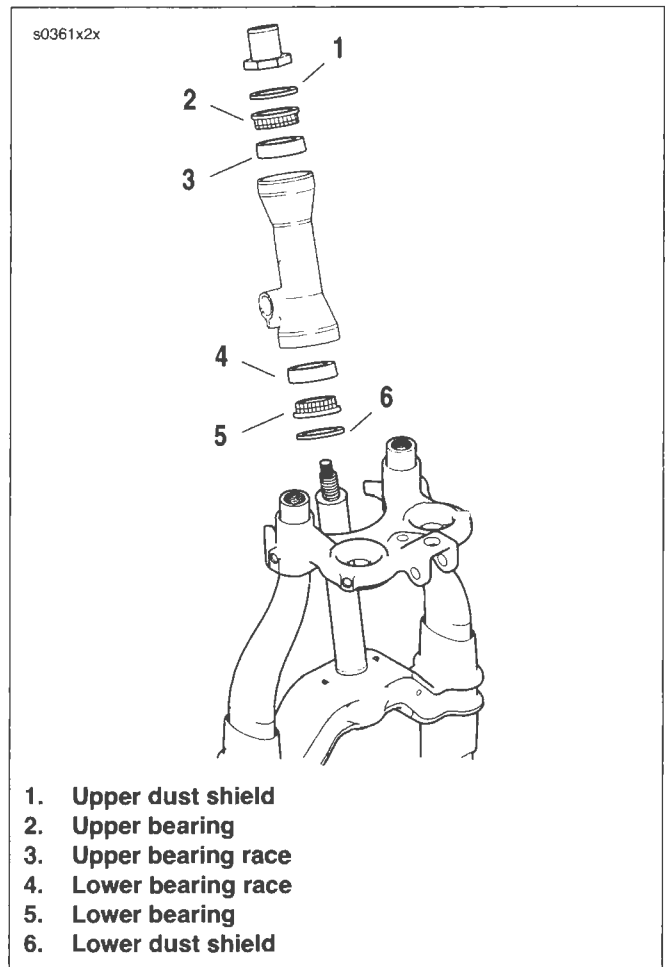

Figure 2-106. Steering Head: FLSTSC
2. See Figure 2-106. Remove upper bearing dust shield (1).
3. Remove upper bearing (2).